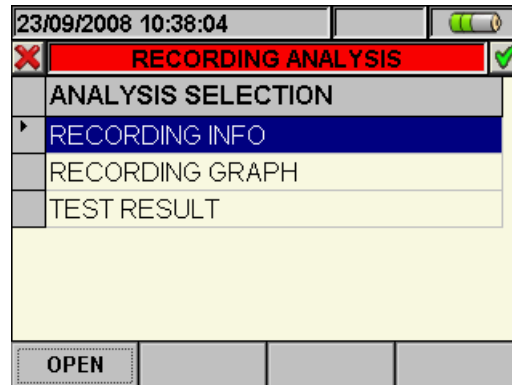

Fig. 134: Recording analysis (RegPV*-type data)
2. Press the **ESC** key (or the smart icon  on the display) to exit the function and go back to the "Recording analysis" page (Fig. 134).
Press the **ESC** key (or the smart icon on the display) to exit the function and go back to the "Recording analysis" page (Fig. 134).
2. Press the **ESC** key (or the smart icon) to exit the function and go back to the “Recording Analysis” page (Fig. 134).